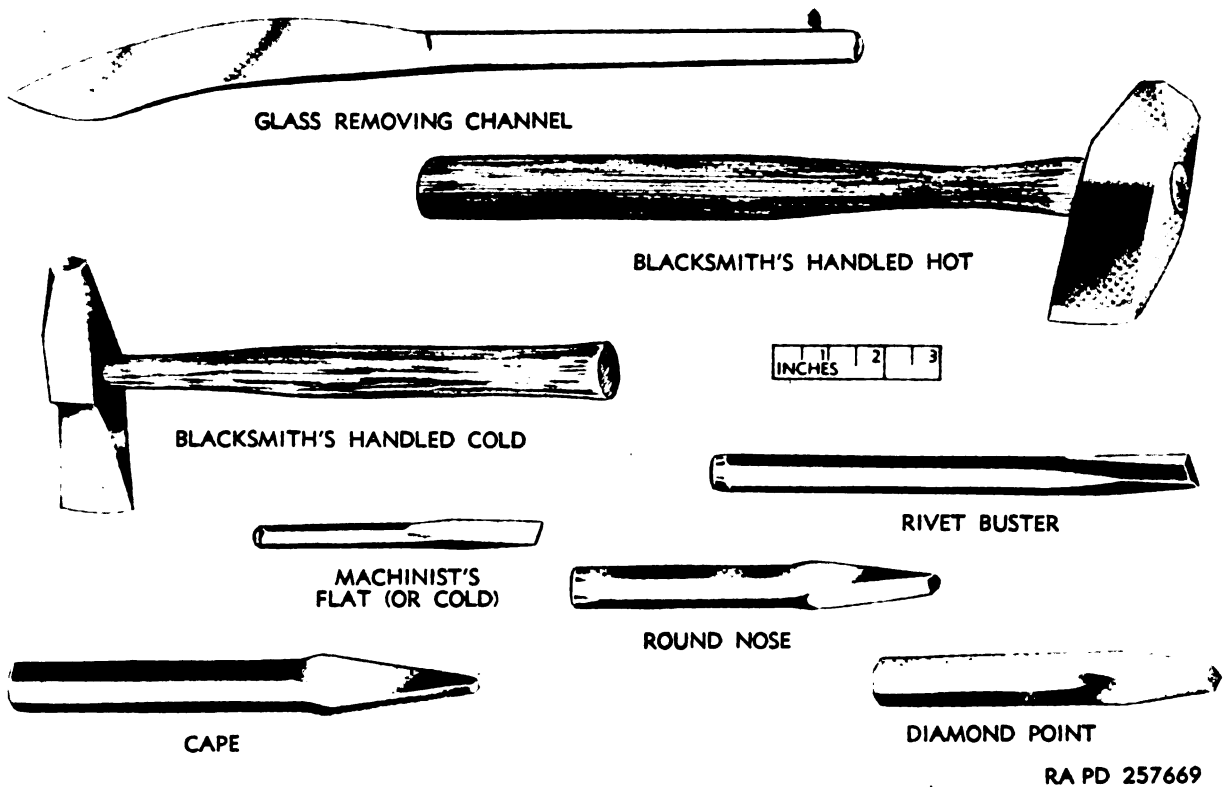

Figure 199. Machinist's and blacksmith's chisels.
- (1) *Flat or cold chisels.* Flat or cold chisels (fig. 199) are made of a good grade of steel with a hardened cutting edge on one end and are rounded off at the other end. The flat or cold chisel is made in sizes from a $\frac{1}{4}$ -inch cutting edge up.
- (2) *Diamond point chisel.* The machinist's diamond point chisel (fig. 199) has a solid point and is used to cut V-grooves, drawing holes, and cutting holes in flat stock.
- (3) *Cape chisel.* The machinist's cape chisel (fig. 199) has a point which is smaller than that of a diamond point chisel. It is used to cut keyways or slots in metal and also for dividing up work so that a flat chisel can be used for finishing.
- (4) *Roundnose chisel.* The roundnose chisel (fig. 199) has its cutting edge ground at an angle of 60° with the axis of the chisel. When roundnose chisels are used to bring drilled holes, just started, concentric with the laid out drilling circles, they are called center chisels. The roundnose chisel is also used for cutting channels, such as oil grooves and similar work. The roundnose chisels are of the general shape of the cape chisel with one edge ground flat, and the other edge making
- (1) *Handled cold chisel.* The blacksmith's handled cold chisel (fig. 199) is used to cut or chip cold metal on an anvil. These chisels are supplied in two sizes, one with a $1\frac{1}{4}$ -inch cutting edge, and the other with a $1\frac{3}{4}$ -inch cutting edge. The length of the chisel is about 5 inches. It is provided with a wood handle.
- (2) *Handled hot chisels.* The blacksmith's handled hot chisel (fig. 199) is used only when hot metal is to be cut. It has a wood handle long enough to keep hands at a safe distance from the hot metal, as well as to provide a firm grip, because a heavy hammer or sledge is used to strike it. This chisel is heavier and more rugged than the handled cold chisel.
e. Rivet Buster Chisel. A rivet buster chisel (fig. 199) is 9 inches long and has a ¾-inch cutting edge. It is designed to reach chassis rivets and other difficult places that other chisels cannot reach.
f. Glass Removing Channel Chisel. The glass removing channel chisel (fig. 199) is 15½ inches long with a curved blade. It is used to cut away hard putty from around glass and also to separate glass from its frame channel.